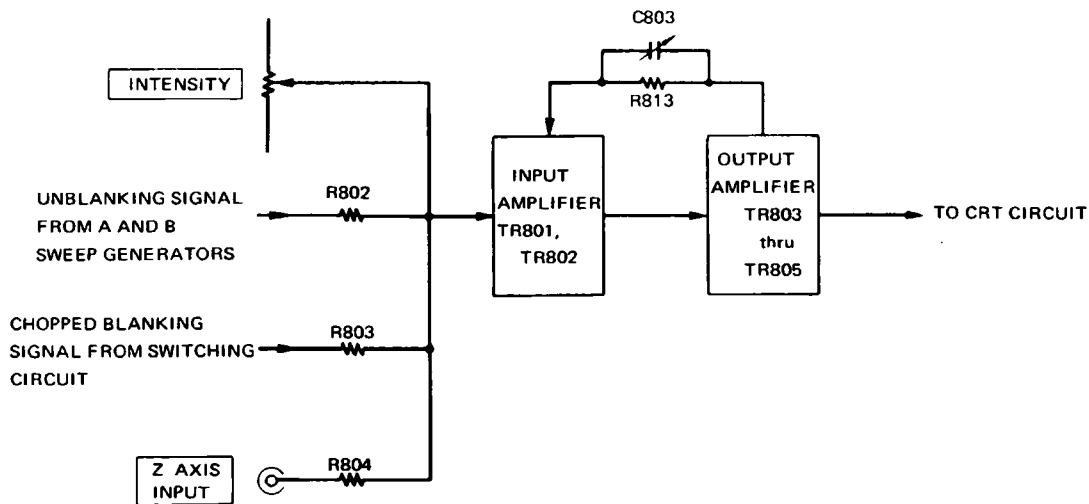

Figure 3-27 Z-Axis Amplifier Block Diagram
**m. Z-Axis Amplifier** (Schematic 13). The Z-Axis circuit provides intensity modulation and blanking of the CRT. Referring to Figure 3-27, the input signal is applied to the emitter of grounded-base amplifier TR801. Diodes D801 and D802 form a protective network for TR801. The dc level